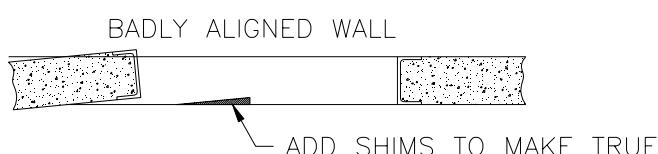

FIG. 2
- If the wall is badly aligned, shim to make true (Figure 2).